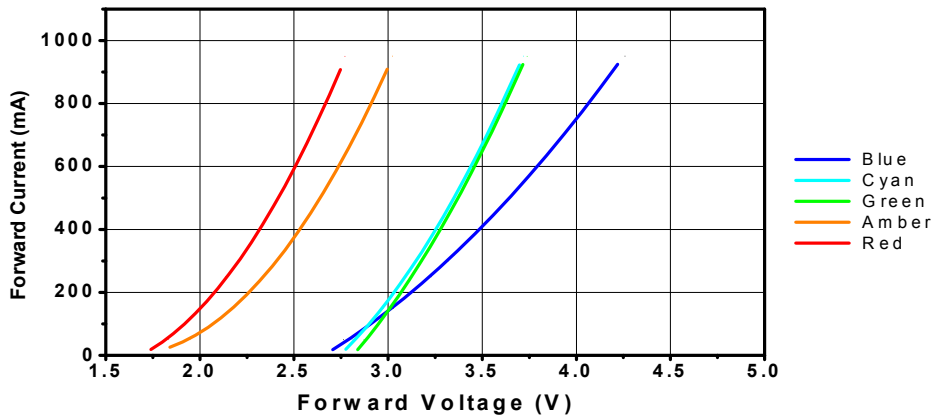

Figure 2: Forward Current vs. Forward Voltage
4. Dynamic resistance is the inverse of the slope in linear forward voltage model for LEDs (See Figures 2). $25^\circ\text{C} \leq T_J \leq 110^\circ\text{C}$ at $I_F = 350\text{mA}$, where T_J is the junction temperature of LEDs